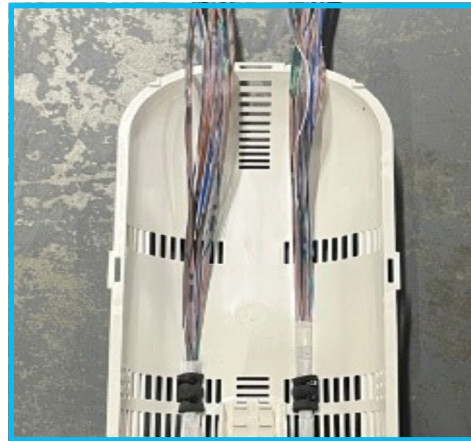

Figure 11.2
2. Lay the fibres over the basket [Figure 11.2].